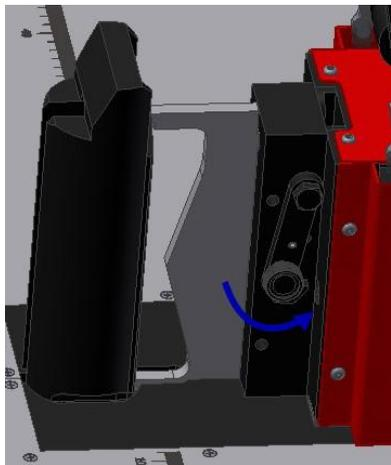
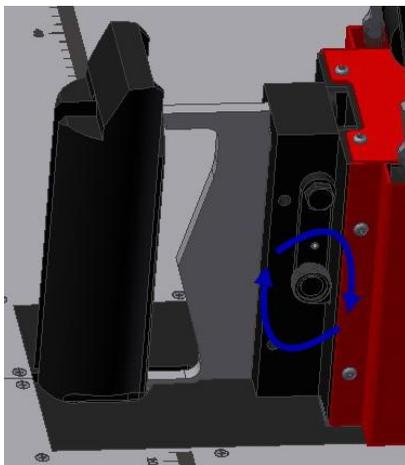

Fig. 39.
Fig. 40.
- Catch the lock (fig. 39) and fasten (fig. 40).